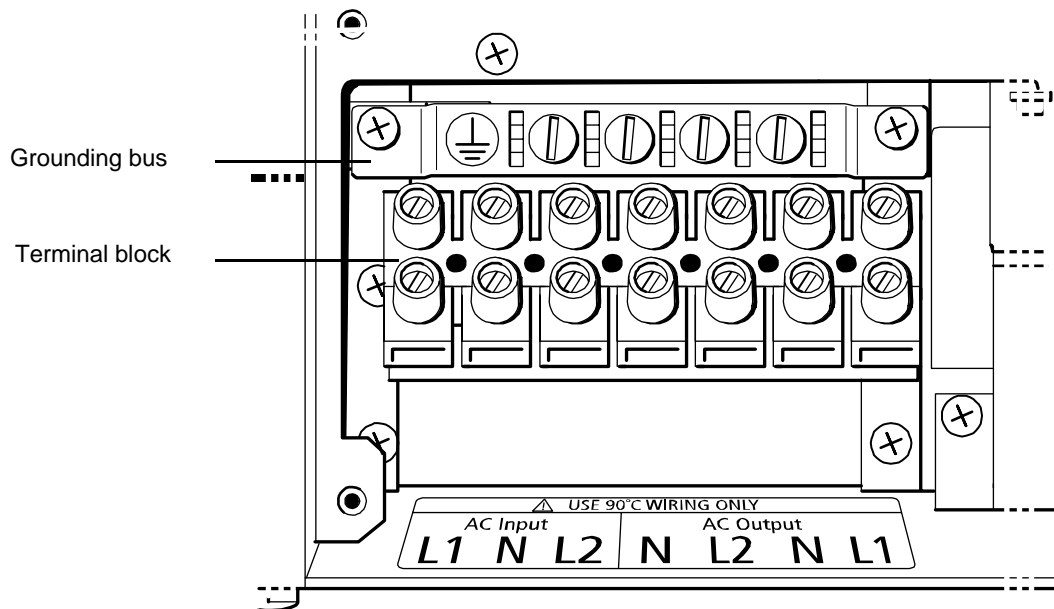

Figure 5 AC Wiring Compartment
AC Wiring Compartment For your reference, the AC wiring compartment is shown in Figure 5 on page 22.
Figure 5 shows the wiring compartment, which contains a grounding bus (used to wire the AC input and output ground wires) and a terminal block (used to wire the AC input and AC output connections).
8. Connect the line and neutral wires to the input terminals (labeled AC Input on the terminal block, Figure 5 on page 22). Connect Line 1 to L1, Neutral to N, Line 2 to L2.
10. Connect the ground wires to a free position on the ground bus, Figure 5 on page 22. If solid ground wire is being used, the wire can be connected directly under the screw heads. If stranded ground wire is being used, ring terminals must also be used.
5. Connect the line and neutral wires to the output terminals (labeled AC Output on the terminal block, Figure 5 on page 22) as follows:
7. Connect the ground wires to a free position on the ground bus, Figure 5 on page 22. If solid ground wire is being used, the wire can be connected directly under the screw heads. If stranded ground wire is being used, ring terminals must also be used.